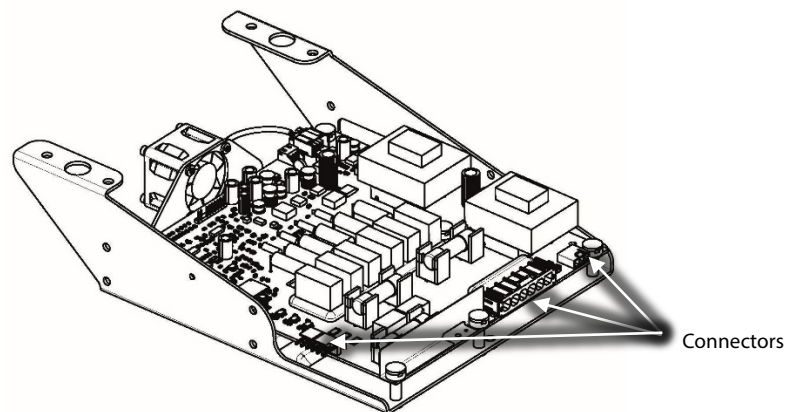

Figure 5 – Soft Start Harness Removal
13. Unplug the cable connectors from the Soft Start board. Refer to Figure 5 (Soft Start Harness Removal).